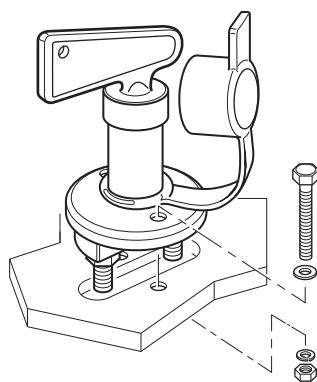

Fig. 48
- Install the battery cut-off switch at a suitable location inside the vehicle and fix in place using the screws supplied (Fig. 48).